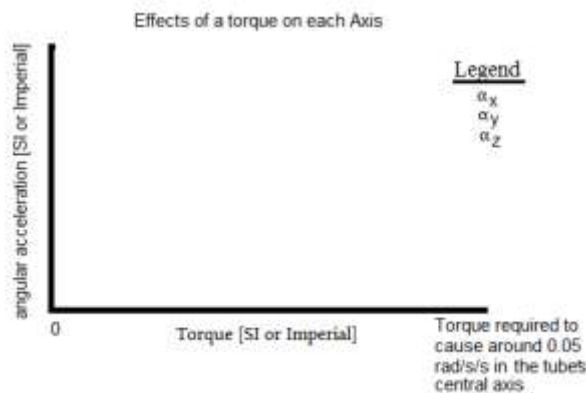

Figure 3
5. 2 Plots see figure 3 and 4. One plot (f.3) with zero angular velocity on all axes. One plot (f.4) with 0.1 rad/s in each axis. For f.4 just show torque applied to a single axis of your choice.